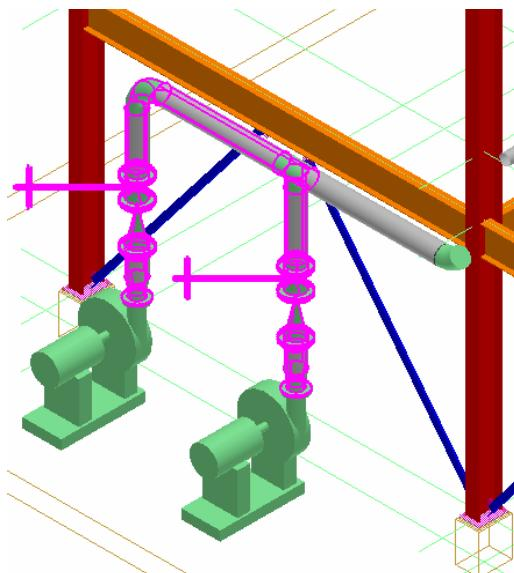

Figure 4: Piping Parts of Pipeline 1001-P
8. Select the piping parts of the pipeline **1001-P**, as shown in Figure 4, to assign them to isometric sheet number **A**.